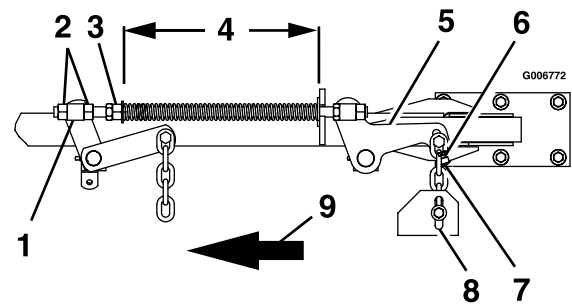

Figure 14
5. Raise the deck to the 4 1/2 inch (11.4 cm) height position and take as much force as possible off of the two large deck lift springs by loosening the nuts at the front of each spring. (Figure 14).
6. Lower the deck to the 1 1/2 inch (3.8 cm) height position. Place two 1 5/16 inch (3.3 cm) thick blocks under the rear edge of the cutting deck skirt; one on each side of the cutting deck (Figure 14).
12. Raise deck lift lever to the 4 1/2 inch (11.4 cm) cutting height position (also transport position (Figure 8). Adjust spring compression until proper distance is obtained between the two washers by turning the nut at the front of each spring (Figure 14). Lock nuts in position with jam nuts.